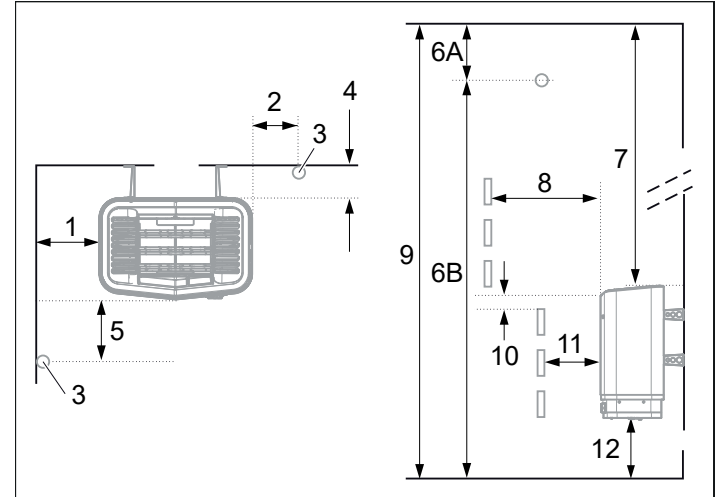
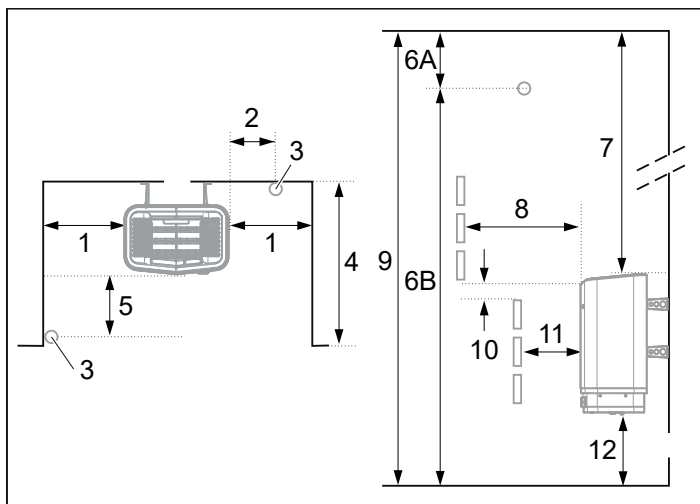

Figure 5: Positioning the heater - normal installation
Figure 7: Positioning the heater - recess installation
- Plan the sensor positioning (see Figure 5, page 14 and Figure 7, page 15).
- on the same wall as the door (or the side wall if very close to the door wall). The heater may also be placed in a recess (see Figure 7).
- Position the heater at a safe distance from the floor, side walls and interior fittings (see Figure 5).
Position the sensor according to the picture (see Figure 5).
1. Position the heater at a safe distance from the floor, side walls and interior fittings (see Figure 7).
2. Position the sensor according the picture (see Figure 7).